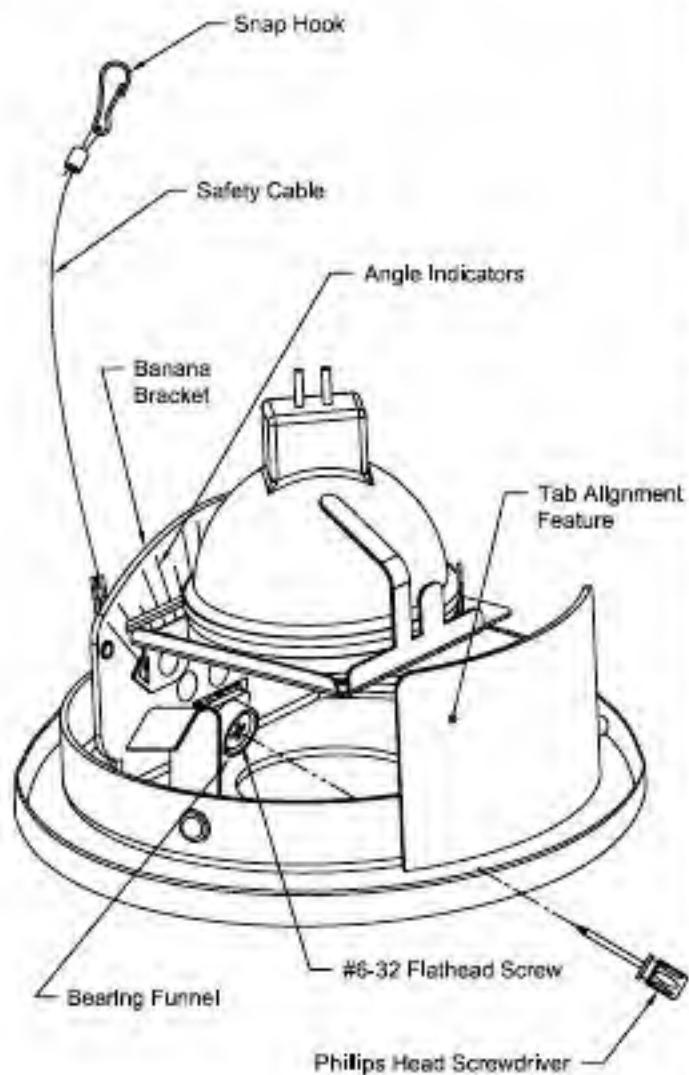

Figure 4
1. Connect Safety Cable attached to Banana Bracket on Trim Mechanism (See Fig. 1 & Fig. 4) to Fixture by inserting Safety Cable through opening in Fixture and inserting Snap Hook (See Fig. 4) on end of Safety Cable into hole in Bracket attached to inside of Fixture Housing Cover (See Fig. 1).